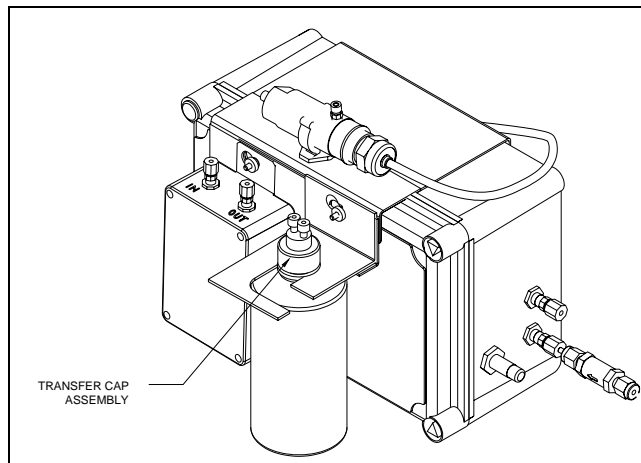

Figure 11
1. Refer to Figure 11. Clean the Transfer Cap assembly using de-ionized or process water (water to be tested).